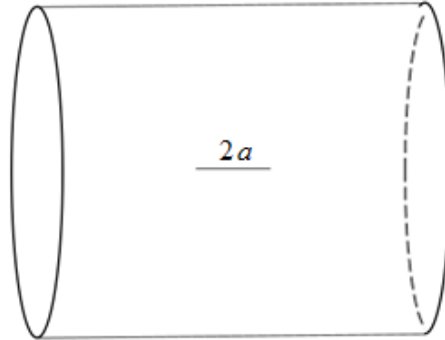

Figure 2
2. The wall of the pressure vessel shown in Figure 2 is subjected to cyclic pressure loading. The stress engineer designs the wall to have a maximum stress of $1/4$ of the yield strength of the material. Material data for the steel alloy is given in Table 1. Assume $Y=1.0$.